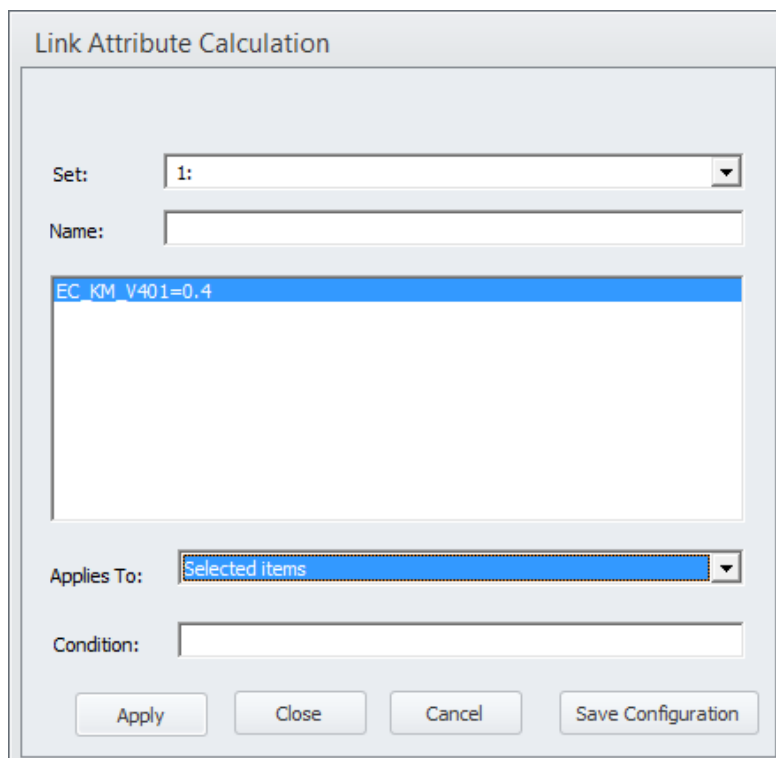

Figure 68 The Link Attribute Calculation window.
- 4) Select Link -> Compute... in the menu bar to access the Link Attribute Calculation window, see Figure 68
- 5) Fill in the fields, see Figure 68. To insert edits in the main field in the middle, right click and select “Insert”. A window, “Insert Equation”, pops up – right-click in the blank field and select the attribute you want to edit, e.g. EC_KM_V401 as in
Figure 68, and type in “=” followed by the value. More attributes could be edited by repeating the procedure. In the “Applies To:” drop down menu, select “Selected items”